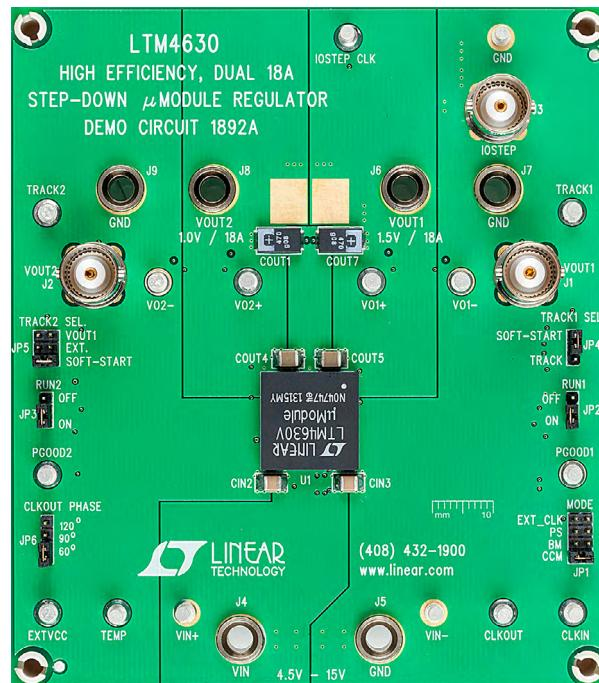

Figure 1. DC1892A
2. With power off, connect the input power supply, load and meters, as shown in Figure 1. Preset the load to 0A and the V_{IN} supply to 12V.